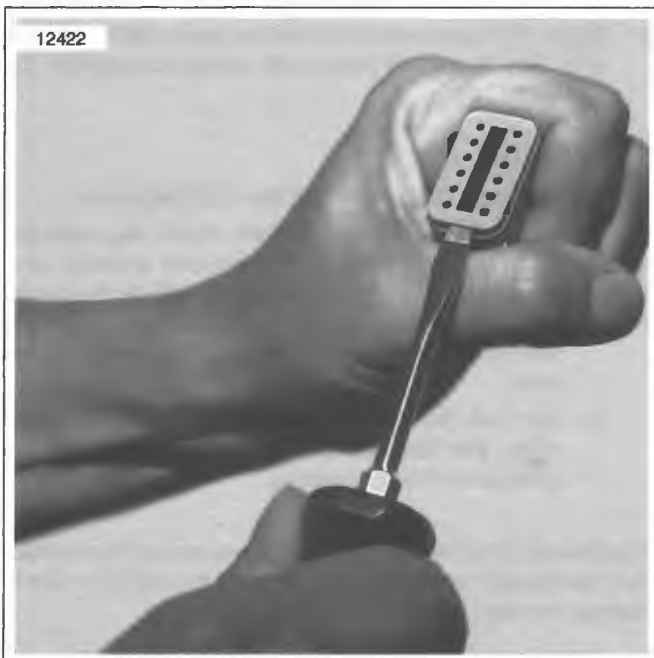

Figure B-14. Remove Secondary Locking Wedge
1. See Figure B-14. Insert a small screwdriver between the socket housing and locking wedge in-line with the groove (in-line with the pin holes if the groove is absent). Turn the screwdriver 90 degrees to pop the wedge up and remove the secondary locking wedge.